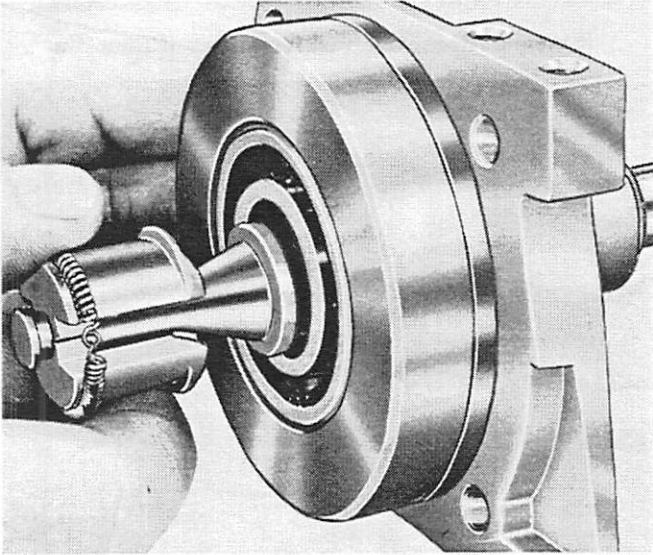

Figure 5. Removing Crankcase Bottom Ball Bearing
2. Insert handle end of Ball Bearing Puller (91-24722) thru top of crankcase bottom, compressing tool caps so that tool will enter bearing, and remove ball bearing from crankcase bottom. (Figure 5)